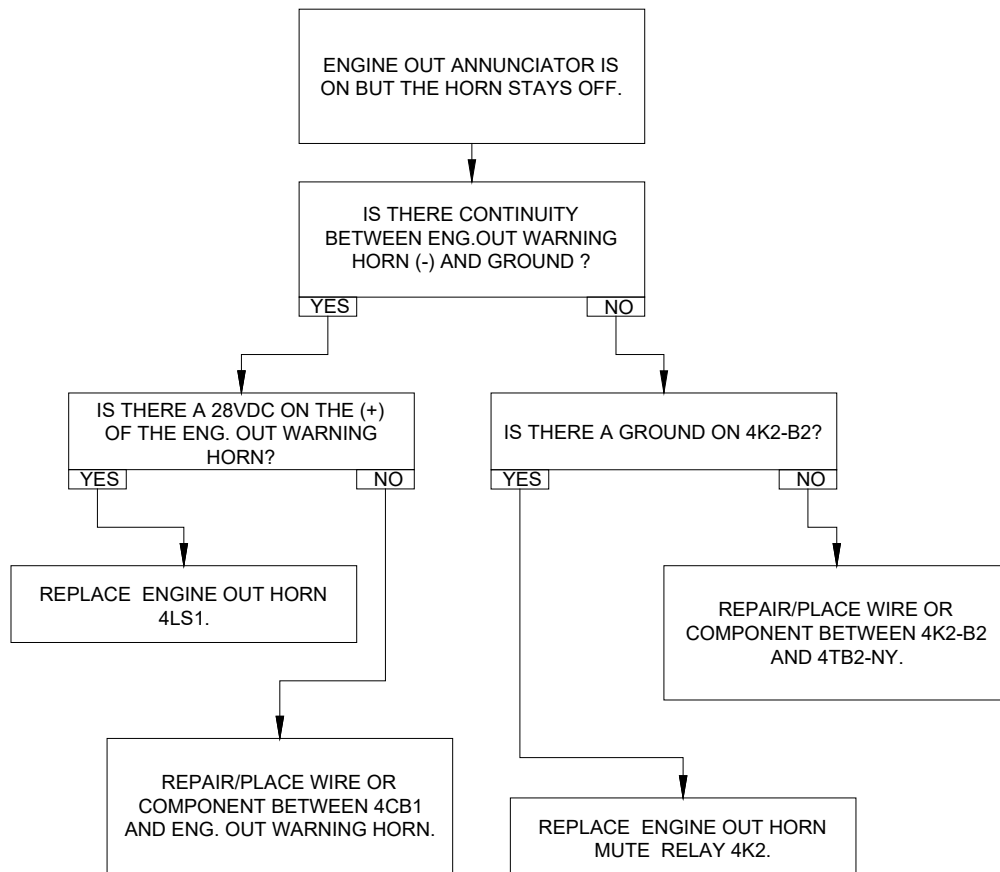

Figure 96-85: ENGINE OUT Annunciator and Warning Horn Circuit – Trouble No. 3
- If the ENGINE OUT annunciator is on and the engine out warning horn (4LS1) stay off, refer to Trouble No. 3 (Figure 96-85).